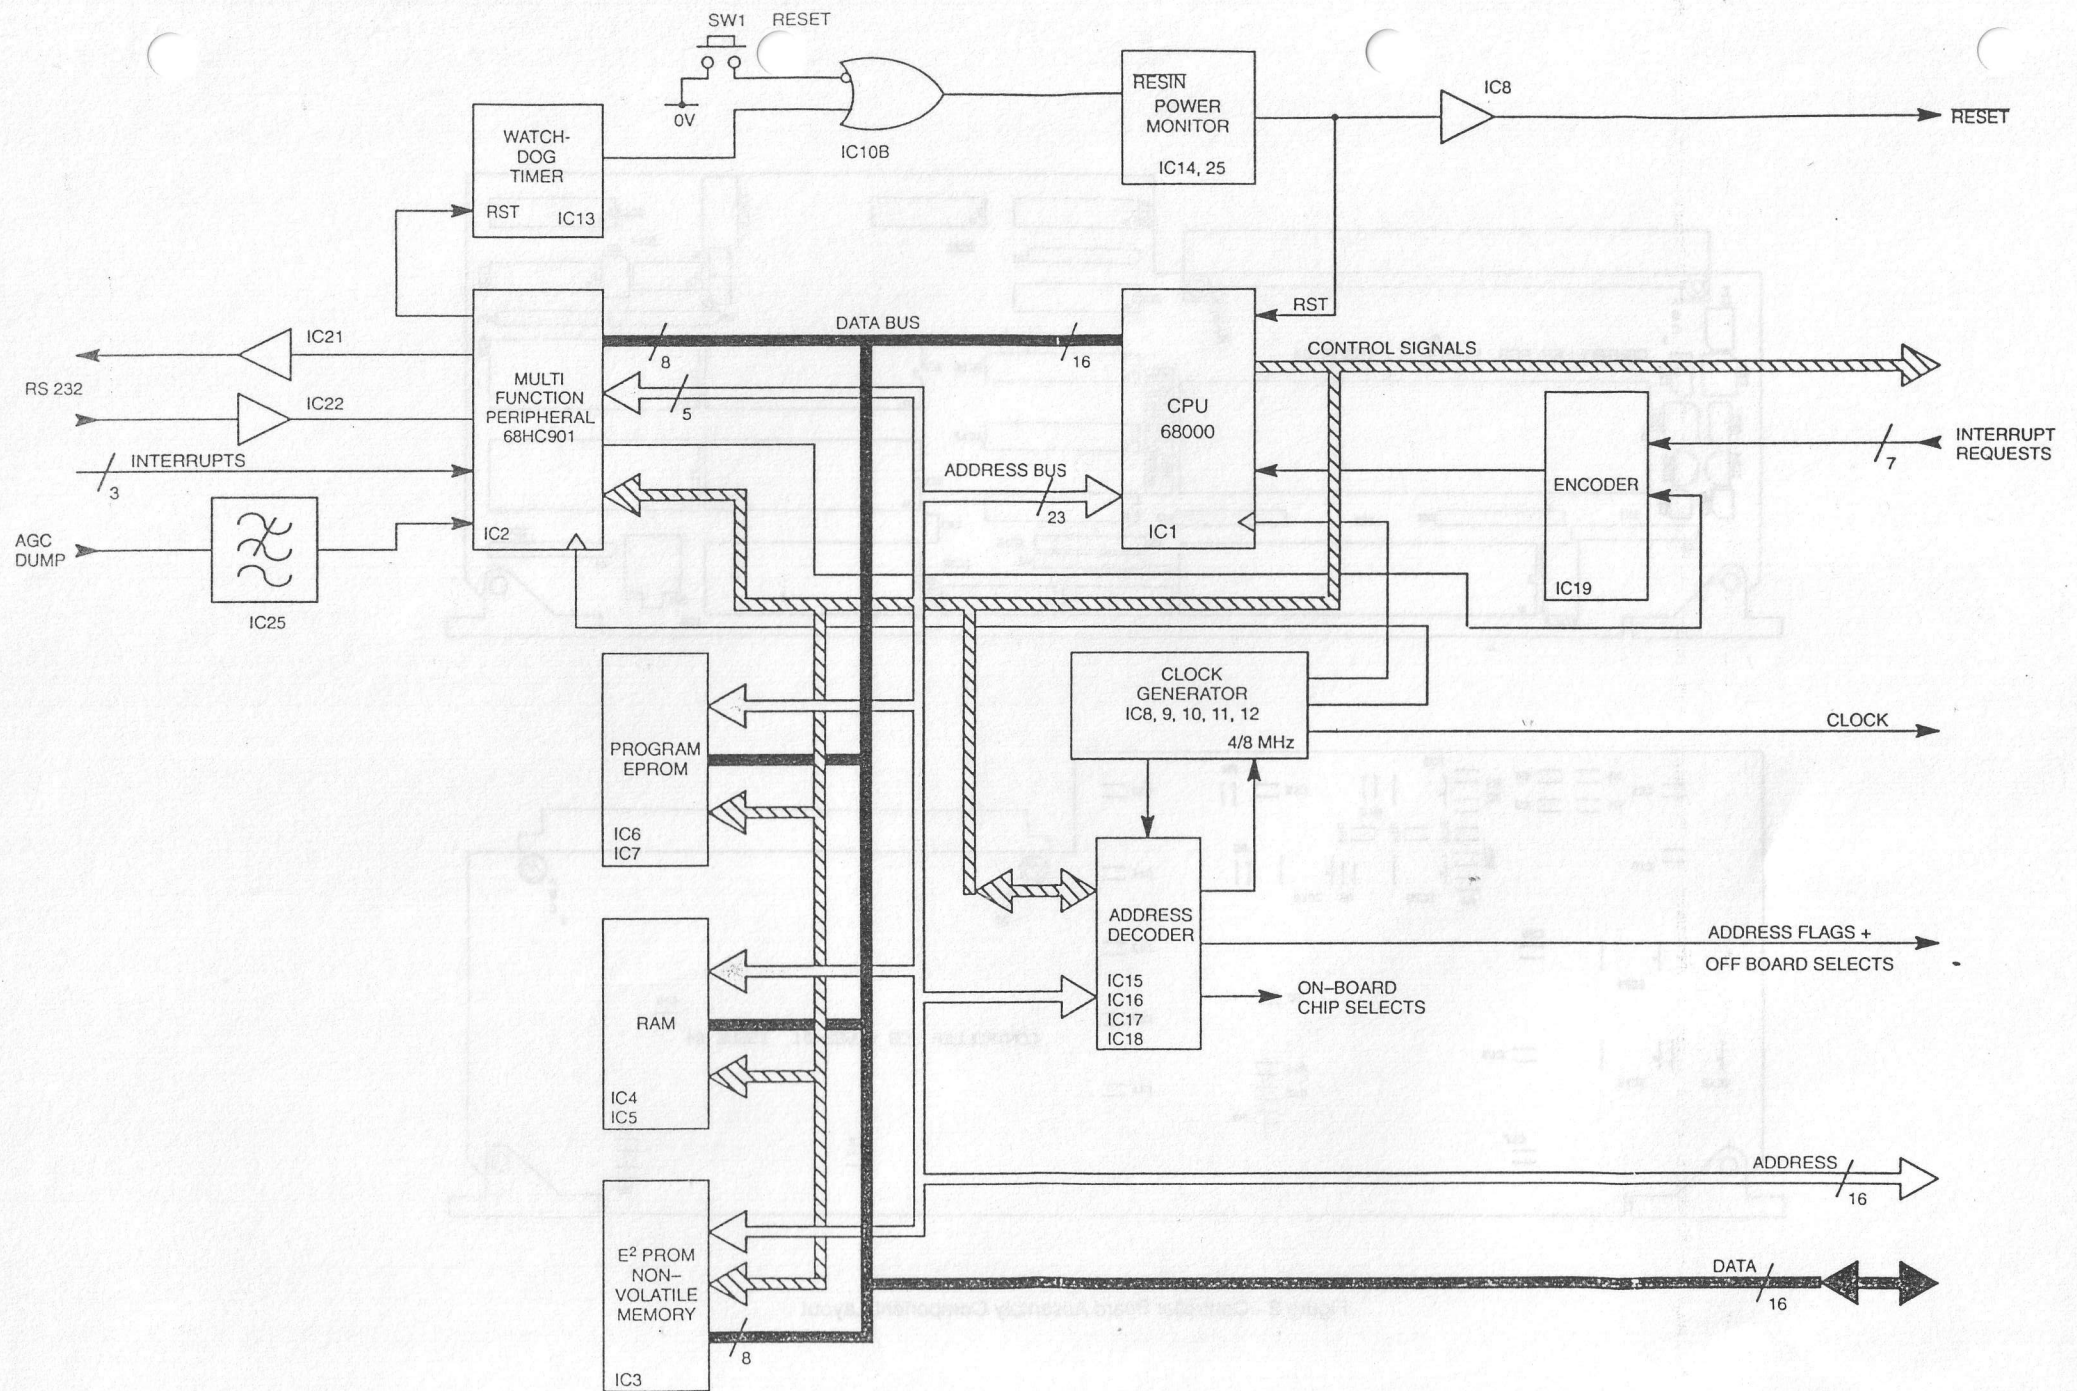

Figure 1 Controller Board Assembly Simplified Block Diagram
- Figure 1 Controller Interface Board Simplified Block Diagram